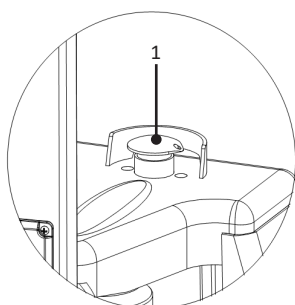

Fig. 14
1. Shut off the emergency stop button (1). (Fig. 14)